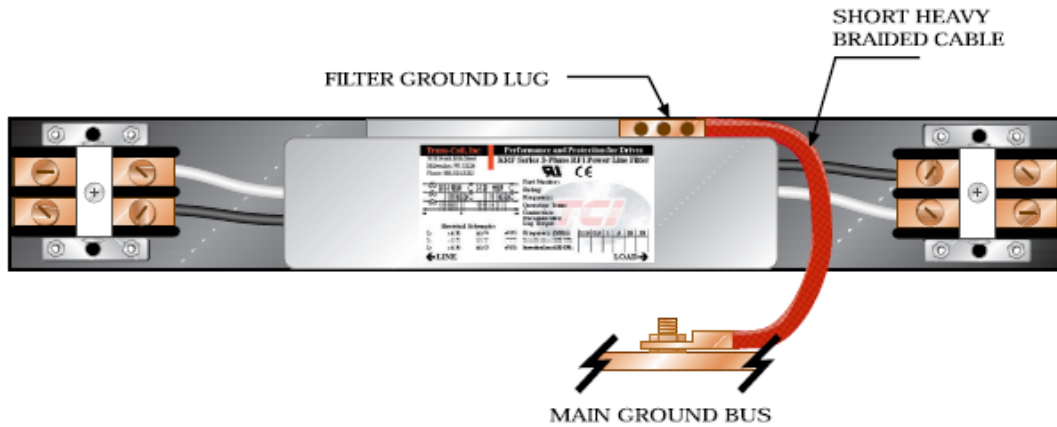

Figure 1-5 Grounding Diagram
2. Attach the ground lug to the main ground bus and tighten the nut; refer to Figure 1-5.